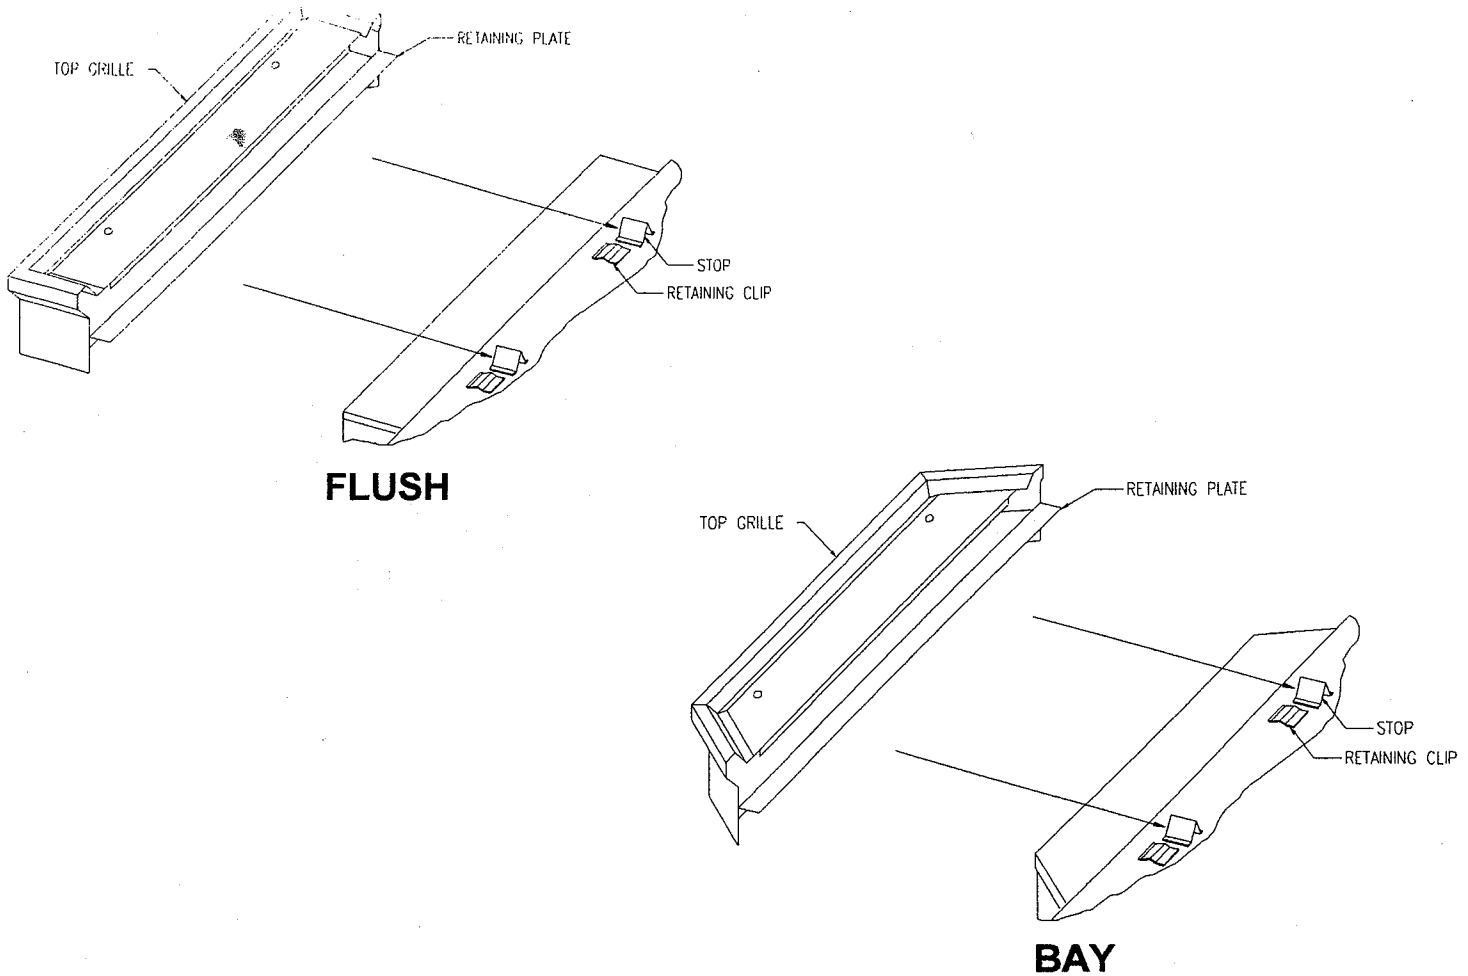

Figure 22
2. Push the grille retaining plate into the clips and against the stops on top of the insert (see Figure 22)